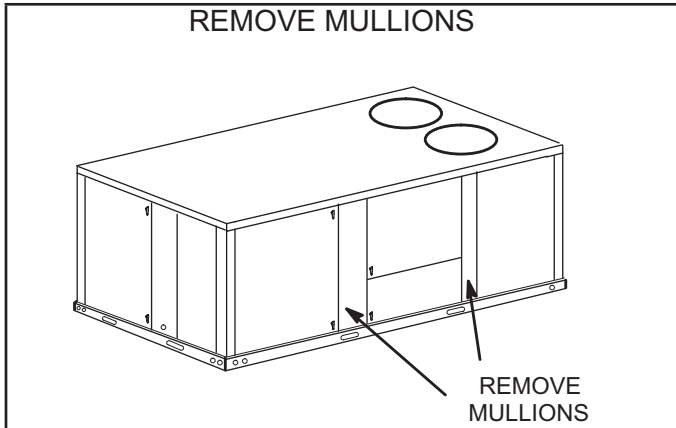

FIGURE 9
- 2 - Remove the front middle and right side mullions as shown in FIGURE 9.